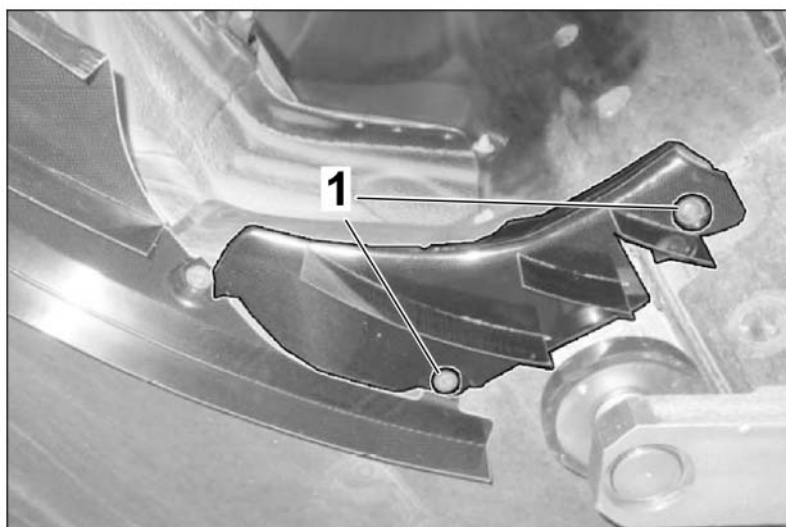

Figure 36
- 5.4.1 Mount air control element (rear 991.044.806.12) with ST4.8 x 19 tapping screws with collar (2 pcs. ⇒ *Figure 36-1-*) on the underbody on the left side (⇒ *Figure 36*).